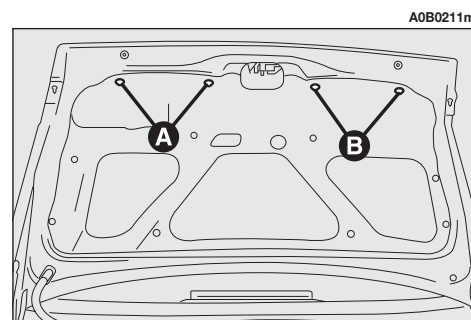

fig. 40
- Slacken the screws (**A or B-fig. 40**) fastening the boot trim in correspondence with the light concerned.